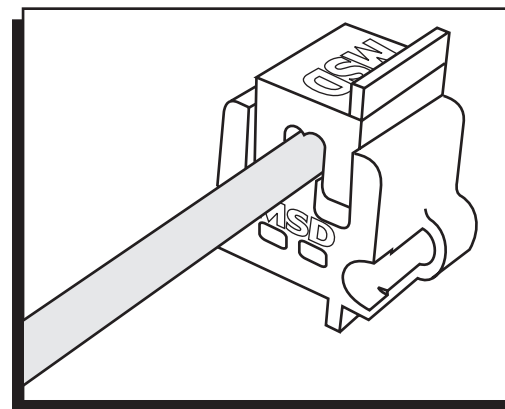

Figure 5 Aligning the Terminal in the Tool.
6. Position the wire and terminal into the "W" groove side of the Mini-Stripper-Crimper. Align the crimp tabs so they are exactly centered on the tip of the crimp die (Figure 5).